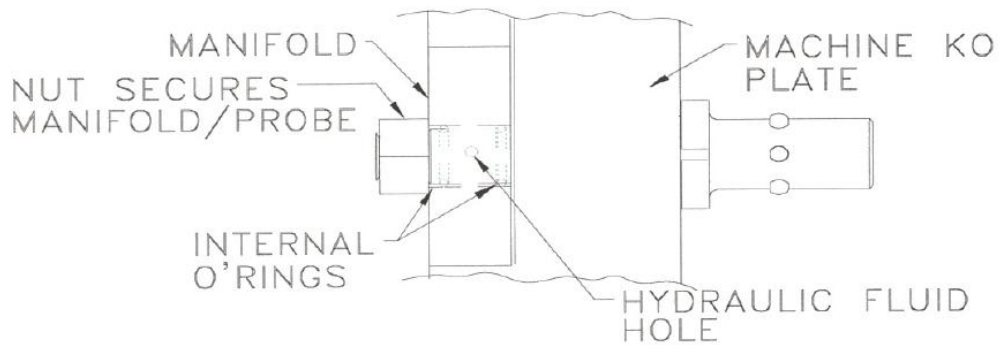
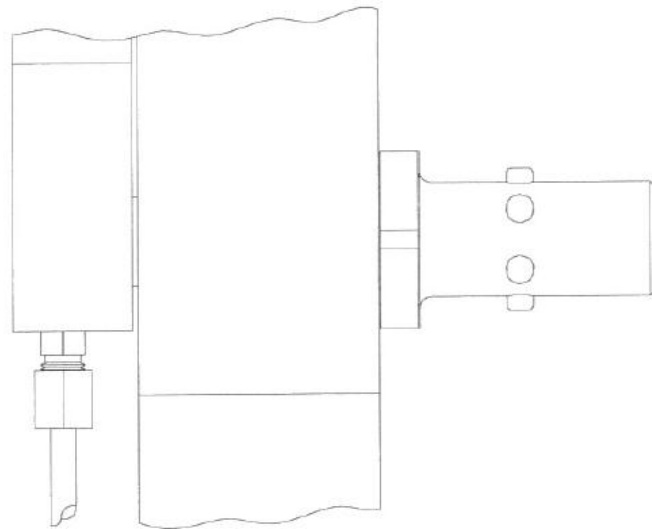

Figure 2
Figure 3
3. The probes have been sized for a machine KO plate of a specific thickness OR to match a specific thickness plus a standoff amount to clear interference. If supplied, it is important to use the standoffs for proper clearance and hydraulic interface between the probes and the manifolds. Expected plate thickness + standoff = total length dimension and is noted as X.XXX" in the system part number and probe part number - 7223AXXXYYYY. The probe diameter is noted as .YYY" Confirm the plate thickness and ensure the system is correct for the plate. It is critical to the probe installation. Figure 2 shows how the probes interface with KO plate and manifold. Figure 3 shows how the hydraulic connection interfaces with the KO plate and manifold.